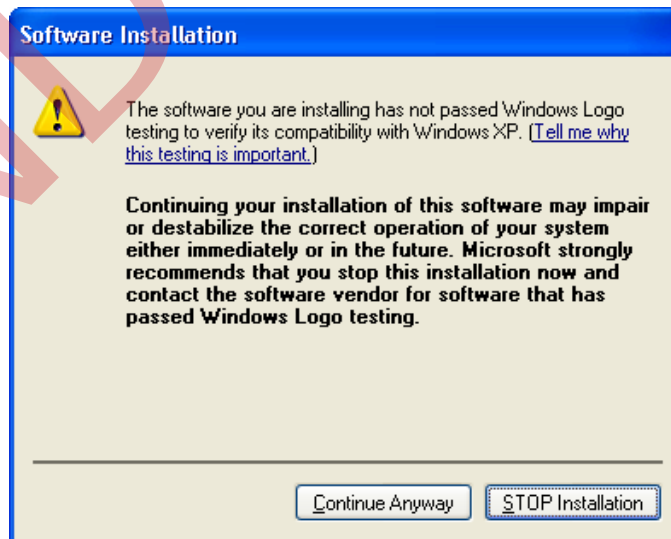

Figure 4. Software Installation Warning Message
2. Follow directions on the screen. When the warning message shown in Figure 4 appears, click **Continue Anyway** and complete the installation